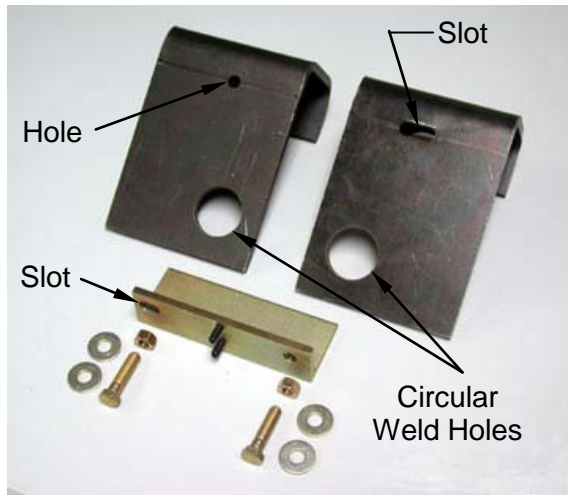

Figure 2
1. Mount the J brackets (one with the hole, one with the slot) to the installation tool as shown in Figures 2 – 5. The slot in the angle fixture must align with the hole in the J bracket. The circular weld holes must be towards each other, see Figure 2. Make sure the brackets are touching both set screws and that the edges are parallel. When properly positioned, tighten the assembly to hold the two brackets in alignment.